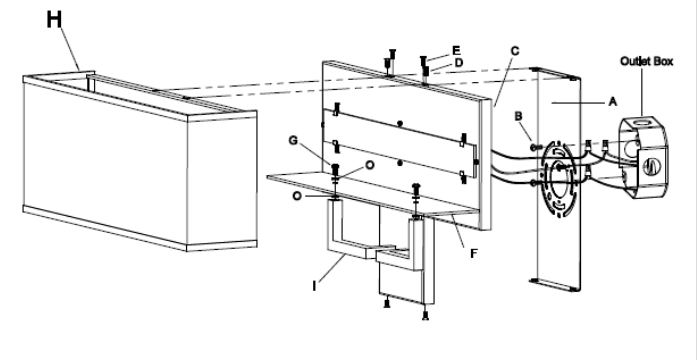

Fig.2
### CONNECTING THE WIRES (FIG. 2)
4. At this point, connect the electrical wires as shown in Fig. 2, making sure that all wire connectors are secured. If your outlet has a ground wire (green or bare copper), connect the fixture's ground wire to it. Otherwise, connect the fixture ground wire directly to the mounting plate (A) using the green screw provided. After wires are connected, tuck them carefully inside the junction box.
5. Align fixture back plate (C) onto mounting back plate (A) and secure with screws (D) (Size: 'M4\*8MM).